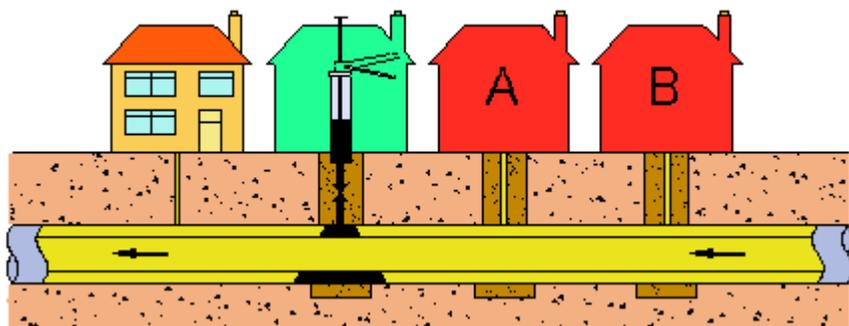

Figure 8 - Mains foam off allowing service transfer
4. In Figure 8 - Mains foam off allowing service transfer the foam off position is nearest the live head of group of services to be transferred